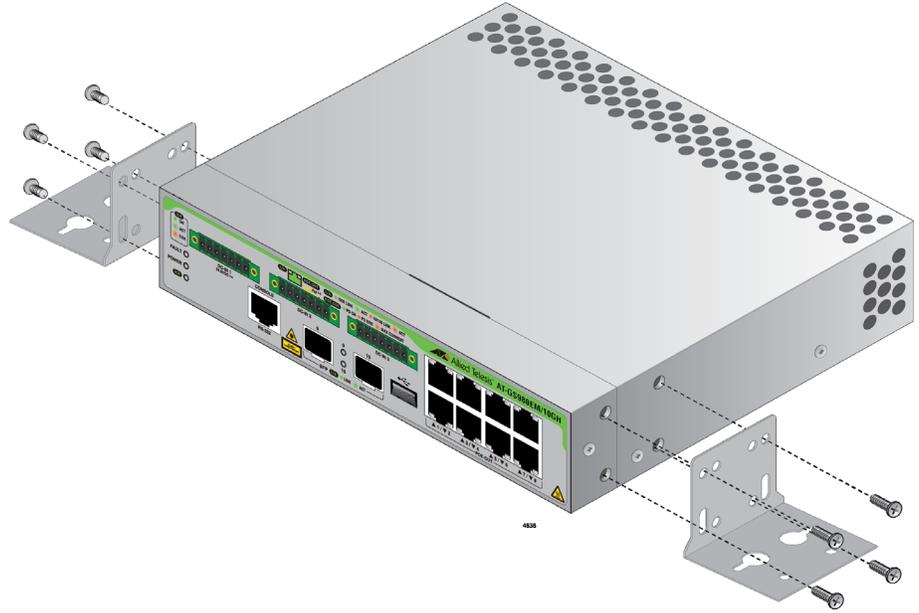
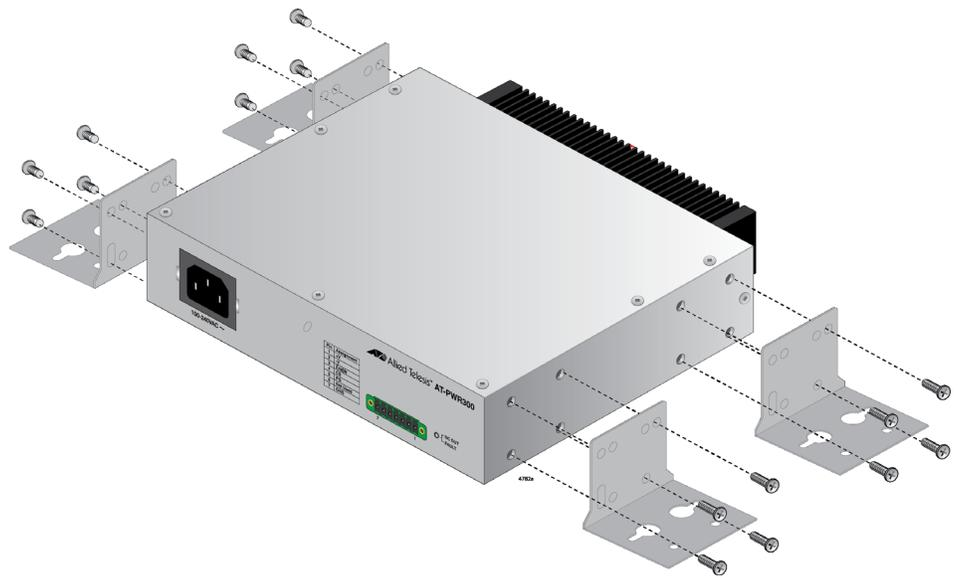

Figure 52. Installing the Wall Brackets on a Switch
Figure 53. Installing the Wall Brackets on a Power Supply
2. For the GS980EM/10H or GS980EM/11PT switch, install two BRKT-J24 wall brackets, one on each side of the front panel of the unit, with the eight M4x6mm screws included with the device. Refer to Figure 52 on page 111. For the PWR300 power supply, install four BRKT-J24 wall brackets, two on each side of the of the unit, with the 16 M4x6mm screws included with the device. Refer to Figure 53 on page 111.
2. For the GS980EM/10H or GS980EM/11PT switch, install two BRKT-J24 wall brackets, one on each side of the front panel of the unit, with the eight M4x6mm screws included with the device. Refer to Figure 52 on page 111. For the PWR300 device, install four BRKT-J24 wall brackets, two on each side of the of the unit, with the 16 M4x6mm screws included with the device. Refer to Figure 53 on page 111.